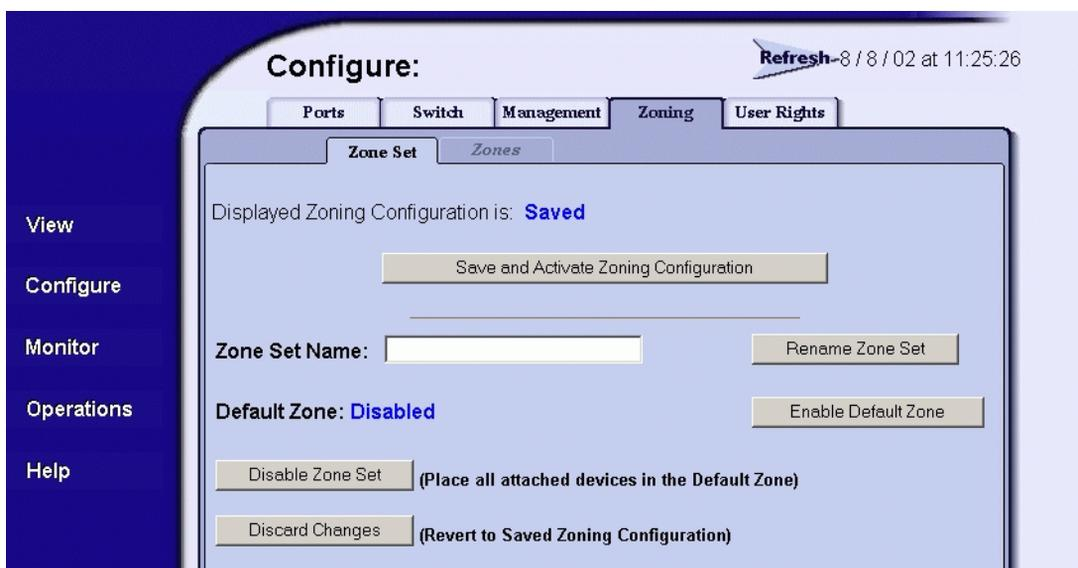

Figure 3–5: Zone Set tab view
2. Choose the **Zoning** tab and the **Zone Set** tab. The **Zone Set** tab view displays (Figure 3–5 on page 3-15).